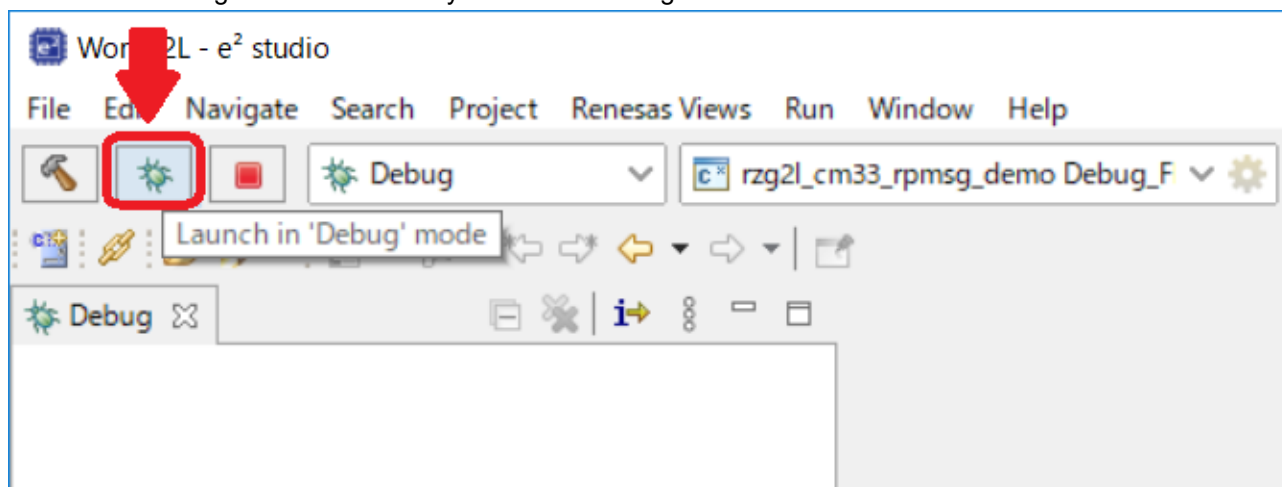

Figure 4-5. Debug Function Launch
- Click the debug button indicated by a red arrow in Figure 4-5.